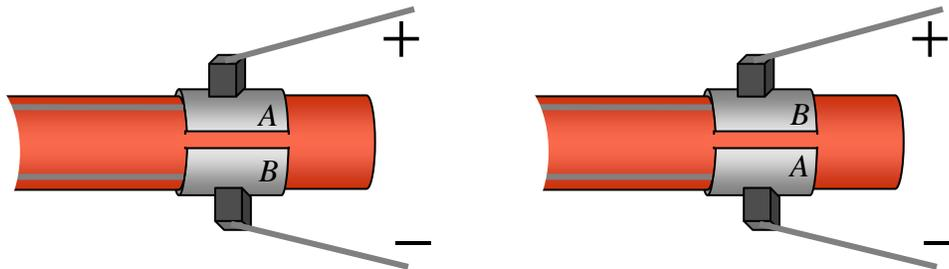

Figure 11.17. Split commutators at two different times.
Another way around the problem allows us to use a direct current (DC) power supply such as a battery. This method uses what is known as a “split commutator.” In this arrangement, a simple commutator is cut in half and fixed onto the shaft so that each half is insulated from the other. The positive terminal of the battery is connected to one brush and the negative terminal to the other brush. In Fig. 11.17 we see how a split commutator works. In the first drawing, the positive terminal of the battery is connected to commutator A. After the armature has rotated a half turn, commutator A is connected to the negative terminal of the battery.